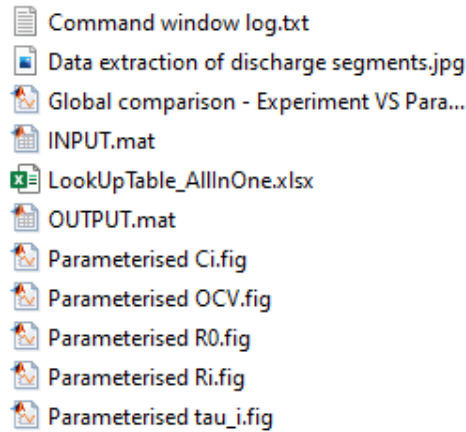

Fig. 3. Parameterisation results are saved in */Results/*.
- ⑭ *Constant*
- ⑮ *Pulse head*
- ⑰ (tick ON the box)
- ⑱ 260
- ⑲ 293322
- ⑳ No
Step 6 – Allow 15 minutes or so for BatPar to complete running. After completion, **you will find parameterisation results saved in */Results/***, as shown in *Fig. 3*. Have a quick check on the result files. All done!